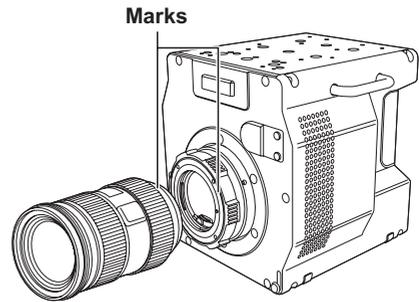

Fig. 2
- 2 Match the mark on the lens (red circle) with the mark on the lens mount (red circle) and attach the lens. (Fig.2)